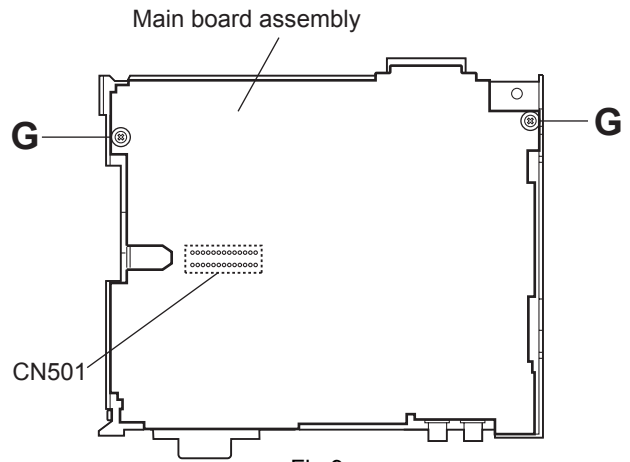

Fig.9
2.1.6 Removing the main board (See Fig.9)